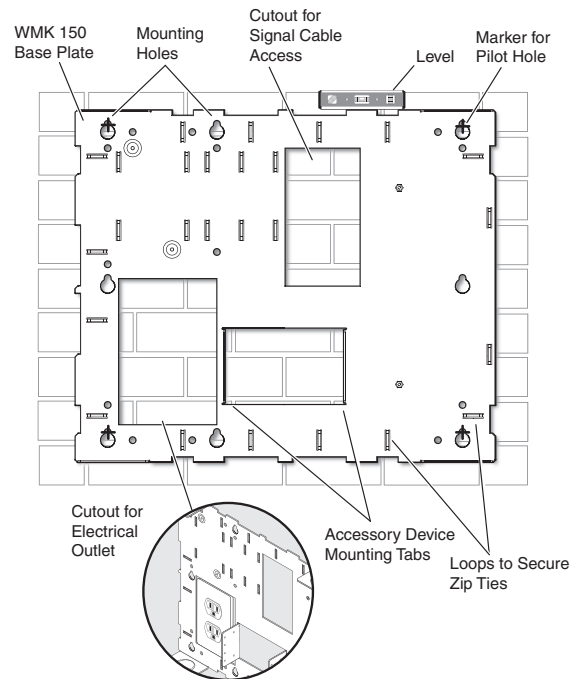
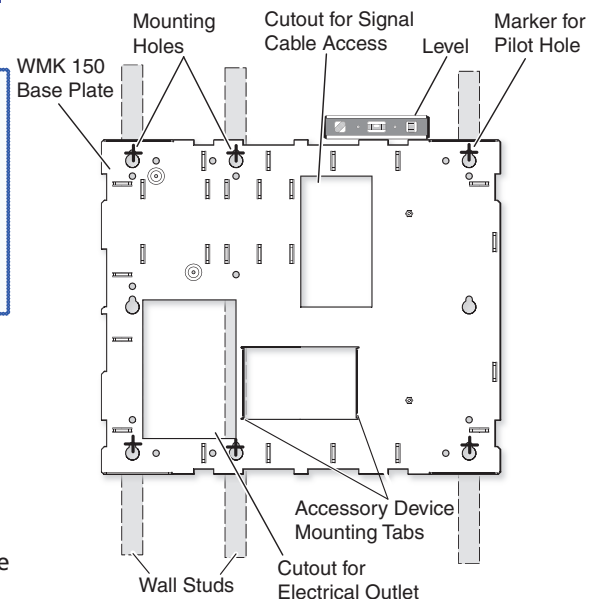

Figure 2. Masonry wall mounting
Figure 3. Non-masonry wall mounting
NOTE: The base plate can be installed over an existing electrical outlet (see figure 2).
- i. Hold the base against the wall, level it, and mark the positions of four slotted mounting holes (indicated by + marks in figure 2). Set the plate aside.
NOTE: For ideal installation secure the base plate to at least one wall stud with two screws (see figure 3). Drywall KapToggles can be used for holes not aligned with studs. Always use the widest spacing of screws and KapToggles. The base plate can be installed over an existing electrical outlet (see figure 2).
- ii. Hold and level the base plate against the wall and mark the positions of the slotted mounting holes that are on the stud lines (see figure 3, indicated by + marks). Where applicable, mark the mounting holes on the wall for drywall toggles.
- iii. If the cables are to be run behind the wall to the WMK 150 location, mark the cutout area on the wall for the signal cable access hole (see figure 3). Remove the base plate and set the plate aside.